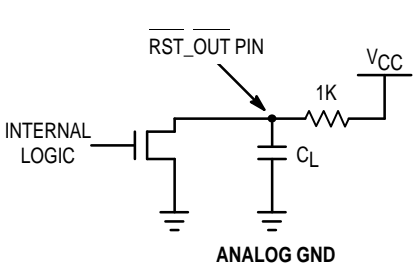

Figure 4. RST_OUT Test Circuit
- The $\overline{RST_OUT}$ pin is an open drain N-Channel output. Therefore an external pull-up resistor must be provided to pull up the $\overline{RST_OUT}$ pin when it goes into the high impedance state (after the MC88920 is phase-locked to the reference input with RST_IN held high or 1024 'Q' cycles after the RST_IN pin goes high when the part is locked). In the t_{pLZ} and t_{pZL} specifications, a 1K Ω resistor is used as a pull-up as shown in Figure 4.